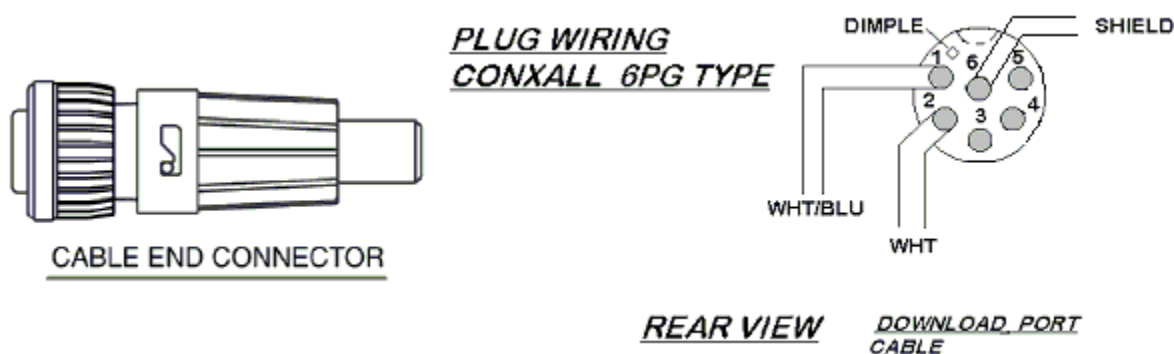

Figure B- 13: Download Port Connector to Download Port – ADAS+
- ❑ 020 Refer to the illustration in Figure B- 13, and connect the cable to the included ConXall™ plug connector using the illustrated pin configuration. Pin 1 is identified by a dimple. Pins 3, 4, and 5 have no connection. Splice a short wire lead to the cable shield with a shrink-on solder sleeve to make the Pin 6 shield connection